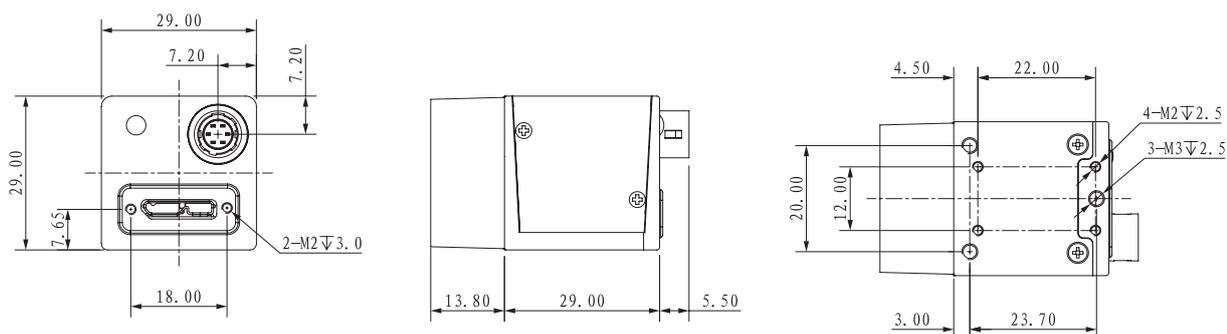

Fig. 1-3: Mechanical Dimensions (in mm) for USB 3.0 Cameras.
- USB3.0 Cameras with 29\*29\*29mm housing are as shown in Figure 1-3.